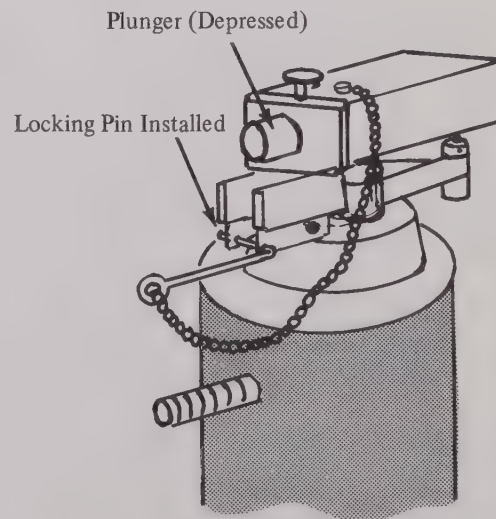

Figure 4.4. Band Tool Mounting
11. Depress plunger and remove locking pin. (See Figure 4.4)